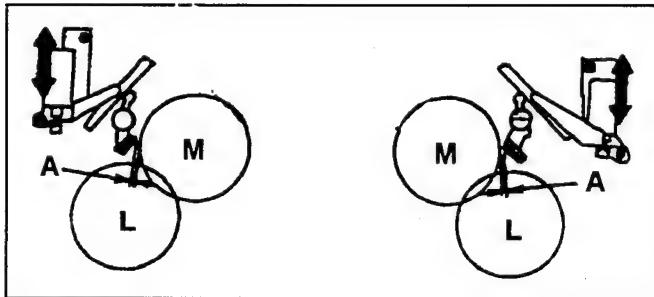

Fig. 4-10-2 Brake Solenoid Adjustment
2. Observe the clearance (A) between Brake pad and it's turntable as shown in Figure 4-10-2. And make sure that it is within 0.2 to 0.5mm.
3. If not, loosen the 2 screws (A), which fixed supply and Take Up Brake Solenoid Unit. And adjust the position of Brake Solenoid Unit by moving arrow direction so that the clearance (A) is within specification. And tighten the 2 screws (A).
4. After adjustment, change the reel position to L cassette size, and confirm that the clearance (A) is within specification.